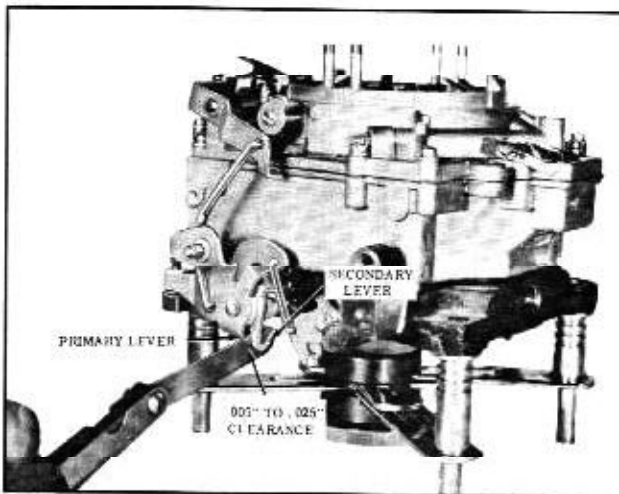

Fig. 8-119 Secondary Actuating Lever Adjustment
3. Remove slack from linkage and insert a feeler gauge between the actuating lever and the primary lever. (Fig. 8-119)